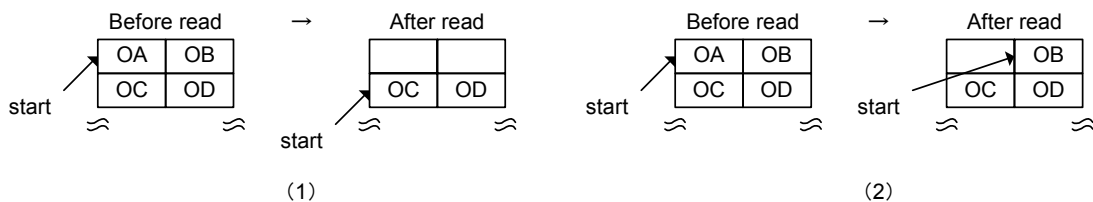

Figure 6-27 FIFO Read Processing (Normal Operations)
How data is read out wordwise when no byte boundaries exist is shown in (1) of Figure 6-27. Data A,B and then data C,D are read out each time the FIFO is accessed. How data is read out byte-wise is shown in (2) of Figure 6-27. Data A, data B, data C, and data D are read out each time the FIFO is accessed. Described above are the normal read operations.